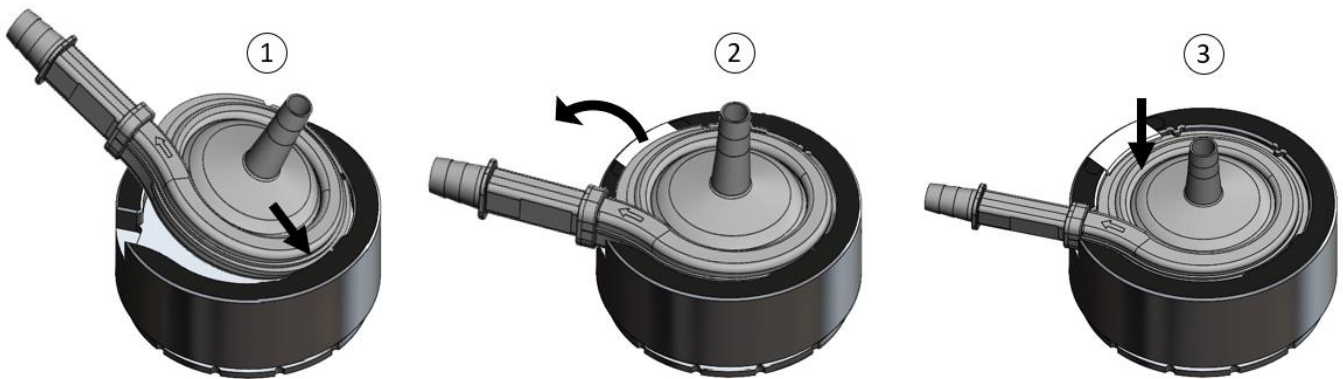

Figure 3 - Pump fitting
- c. Fit the pump into the housing's fixed lock, as shown in Figure 3, item 1.
- d. Pull the movable lock to release the pump fitting from the housing (Figure 3, item 2).
- e. Make sure the pump is properly fixed in the housing (Figure 3, item 3).